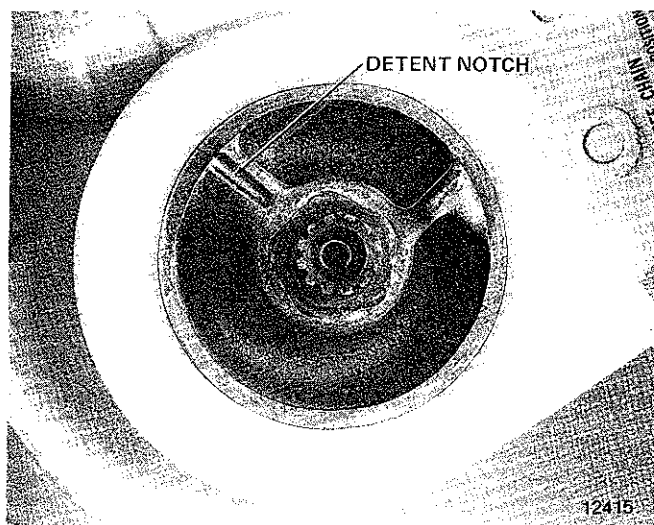

Figure 6-10. View Showing Detent Notch in Load Brake Nut
c. Install hand wheel with plunger at least one full spline, but not more than 1-1/2 splines, counterclockwise from detent notch in load brake nut. If properly assembled, the hand wheel will require slight effort to put into the freewheel position (plunger in detent notch) easily; but some effort will be required for it to come out of freewheel. See Figure 6-10.